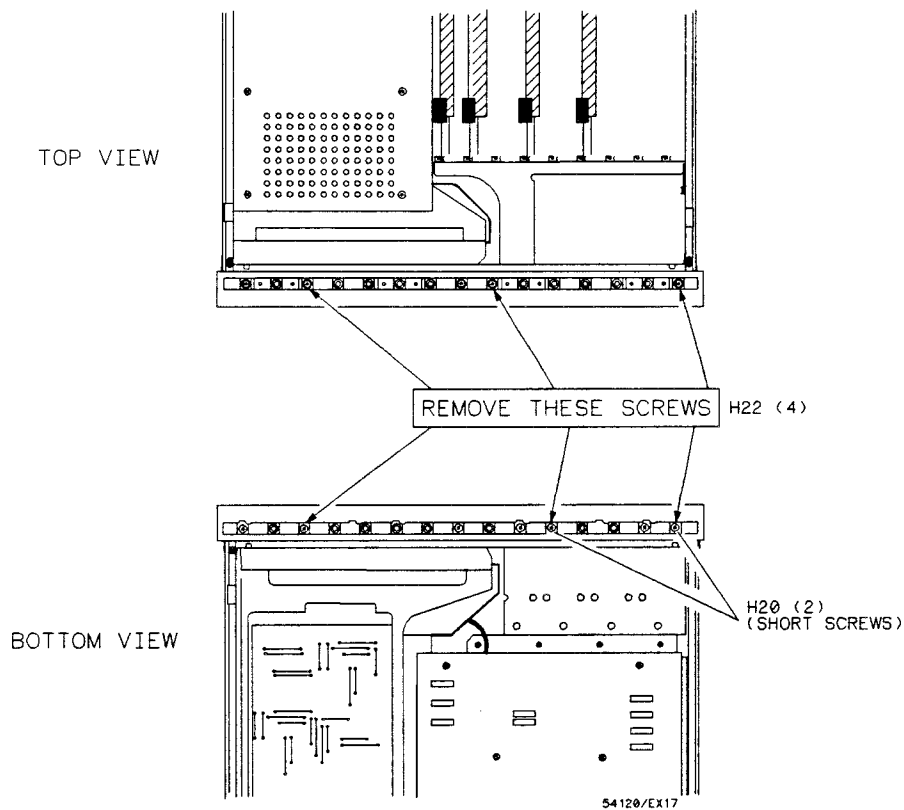

Figure 6A-4. Front Panel Mounting Screws
5. Remove six front panel screws as shown in figure 6A-4.